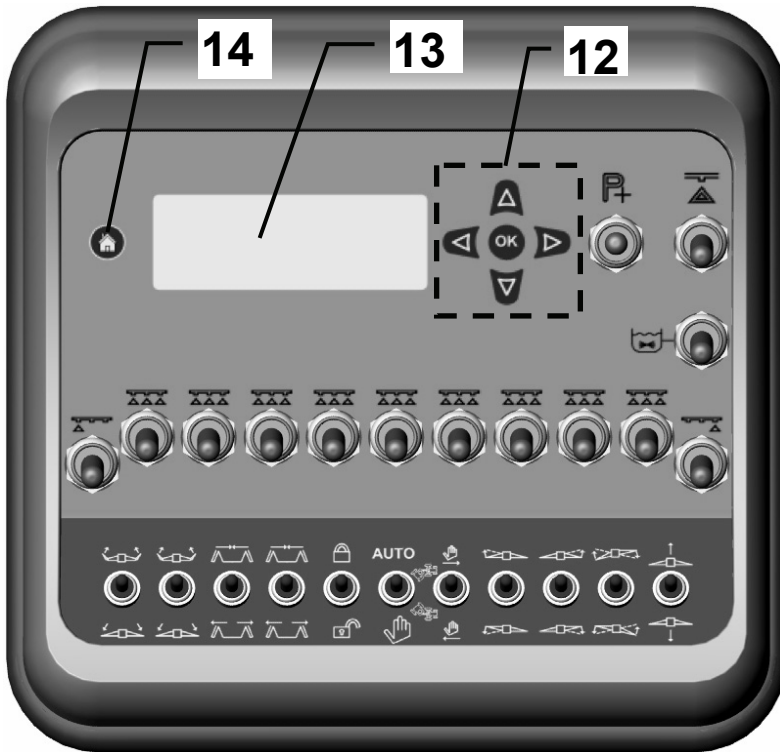

Fig. 5
The computer is operated via the keyboard (12) with **4 arrow keys** and the **OK key** (fig. 5)
Entering and changing of values is done in the same way on all menu screens. The entry is done via the **4 arrow keys** and the **OK key** on the keyboard (12) (fig. 5).